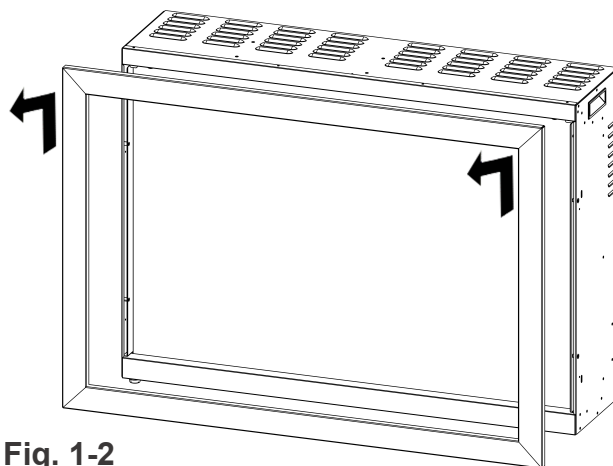

Fig. 1-2
- B. Carefully lift the front trim up and away from the appliance (Fig. 1-2). Place it face down on a soft, nonabrasive surface.